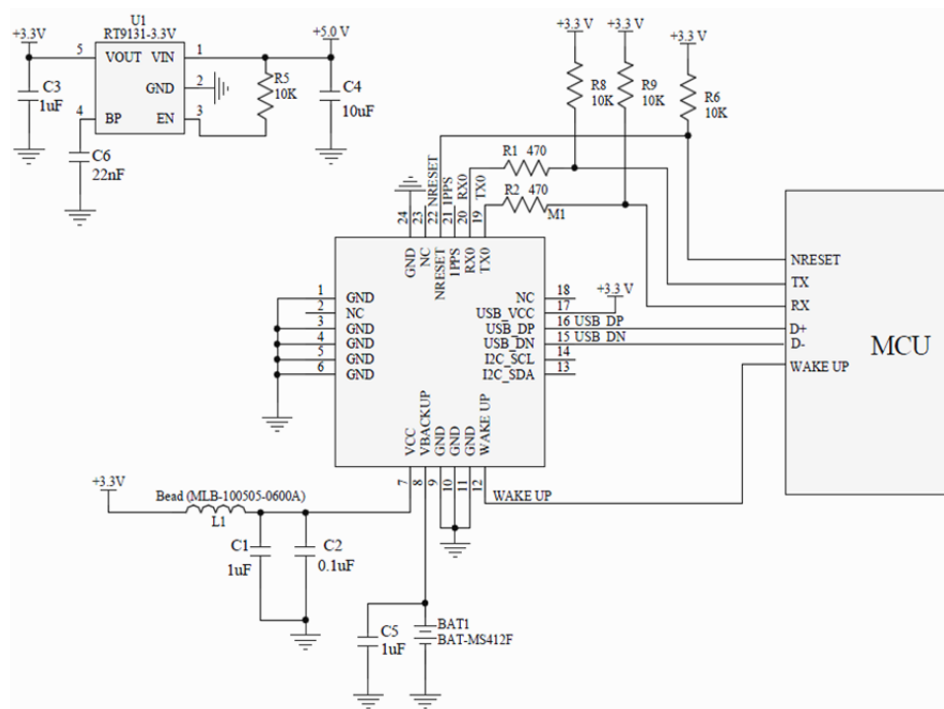

Figure 4-2: UART + USB
2. UART0 + USB (both interfaces can support NMEA output); refer to Figure 4-2